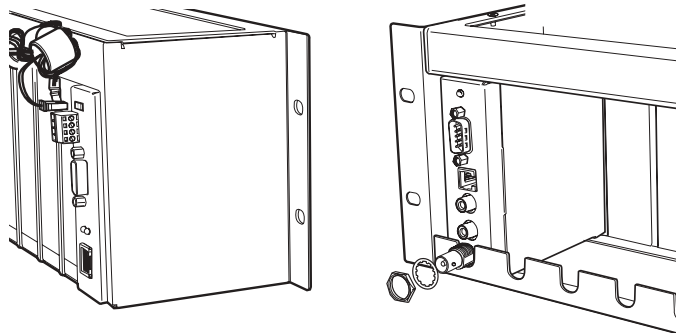

Figure 2. Connecting Electrical Power and Securing PelcoNet
4. Refer to Figure 2. Plug the small electrical connector on the NET101RK into the top receptacle marked "Power" on the back of the PelcoNet unit.
5. Refer to Figure 2. Slip the lock washer removed in step 2 onto the BNC connector. Install the nut on the BNC connector and tighten.